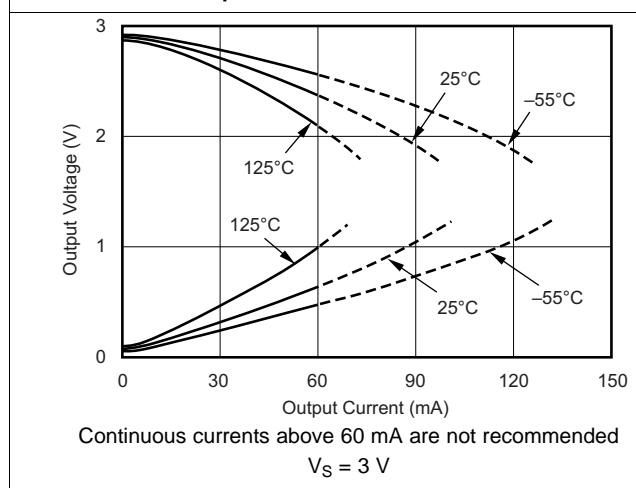
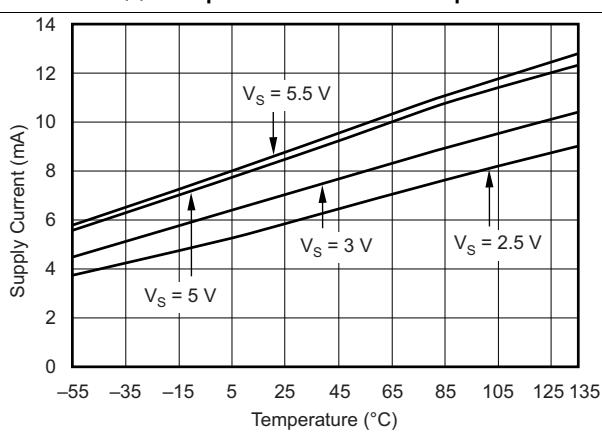
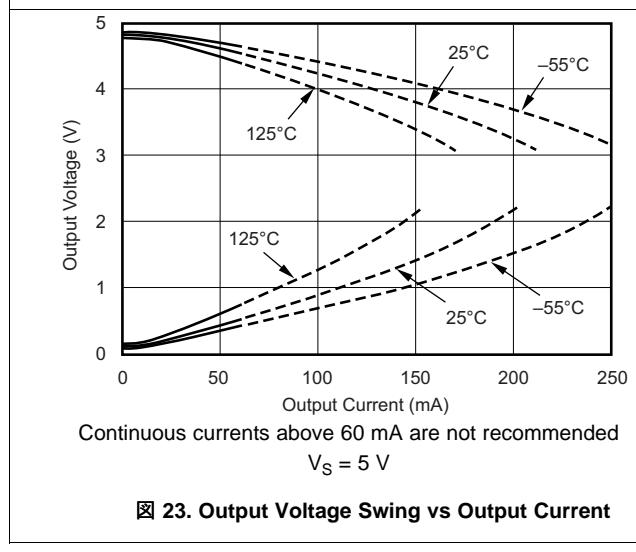

図 21. Output Voltage Swing vs Output Current
図 22. Supply Current vs Temperature
図 23. Output Voltage Swing vs Output Current
(1) See the *Output Voltage Swing vs Output Current* (图 21 and 图 23) in the *Typical Characteristics* section.
(2) Logic LOW and HIGH levels are CMOS logic compatible. They are referenced to  $V_-$ .
Running a continuous DC current in excess of  $\pm 60$  mA is not recommended. See the *Output Voltage Swing vs Output Current* graphs (图 21 and 图 22) in the Typical Characteristics section.